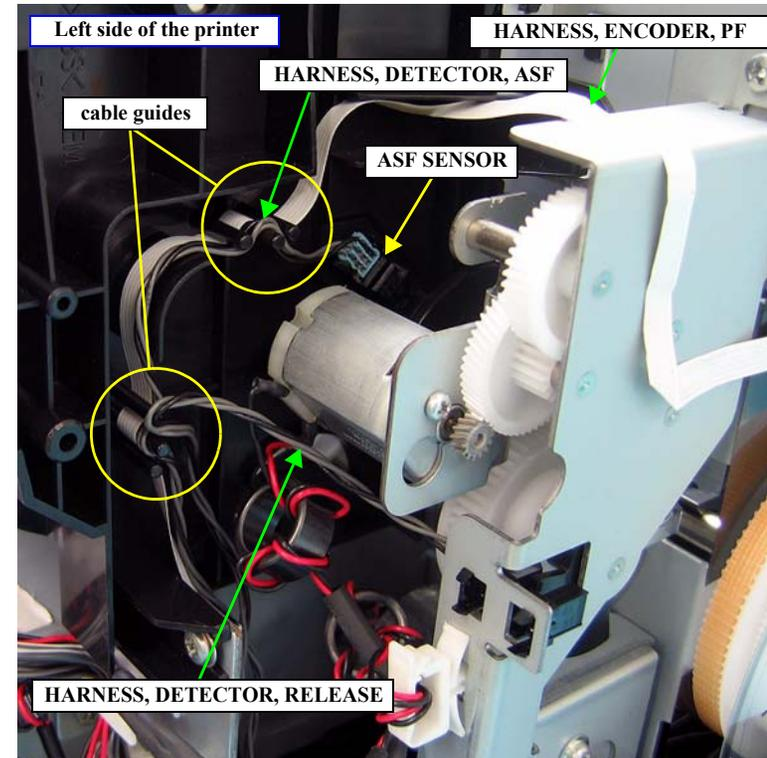

Figure 4-149. Releasing the FFC and cables
6. Release the FFC and cables listed below from the cable guides on the ASF, ASSY. *See Figure 4-149.*